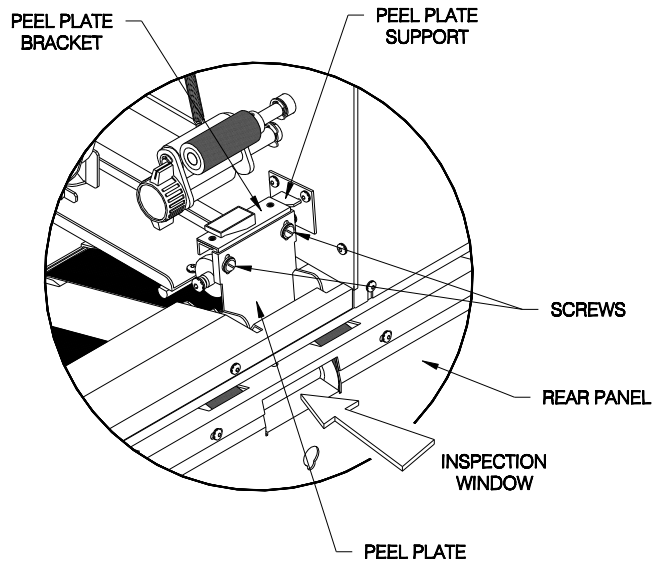

Figure 9.4 – Input End
3. Loosen the SCREWS on the PEEL PLATE ASSEMBLY with a short, small blade screwdriver. (Refer to **Figure 9.4.**)
4. Slightly move the PEEL PLATE up or down on the PEEL PLATE BRACKET. (Refer to **Figure 9.4.**) Move the PEEL PLATE up to place a larger portion of the tab on the top side of the mail piece. Move the PEEL PLATE down to place a larger portion of the tab on the bottom side of the mail piece.